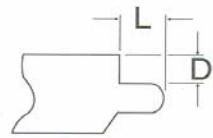

FIGURE 1
- STEP ONE:** Measure the depth of the tongue "D" from the top surface of the flooring to the intersection of the tongue and the vertical edge (See figure 1)
- STEP TWO:** Measure the length of the tongue "L" from the tip of the tongue to the vertical edge. (See figure 1)